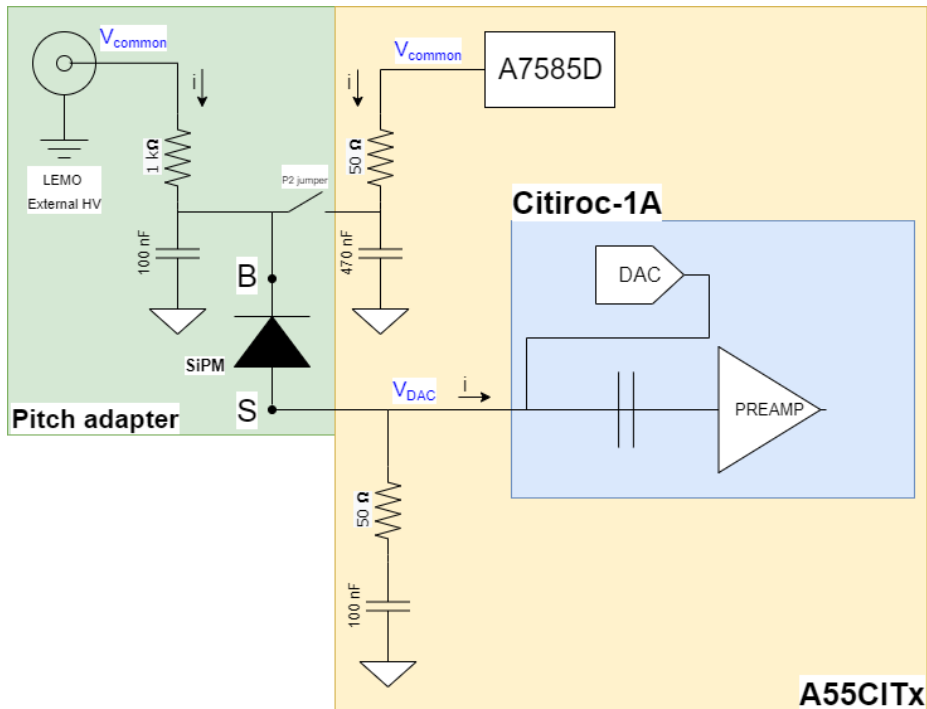

Figure 10.6: SiPM connection scheme to the ASIC and biasing lines when using the pitch adapter kit
The adapter provides 64 signal readout lines (S_x) and 64 sensor bias (B) lines. Each adapter has two 2.54mm-pitch strip connectors, each one exposing 32 bias/signal couples. Once the adapters are plugged in, the bias can be provided by the A7585D on the A55CITx board itself or externally through the LEMO HV connector available on the adapter. The jumper P2, if inserted, connects the bias pins to the DT5550W High Voltage generator while the LEMO connector is always connected to the Bias pins. The adapter is designed to optimize connections to SiPMs. Each detector has independent bias lines filtered with 1kΩ resistor and 100nF capacitor, as shown in **Figure 10.6**
External HV	LEMO HV. External High Voltage input for SiPM biasing. Connection to SiPMs cathodes as shown in Figure 10.6 . The external HV connector is always connected to the Cathode pins B